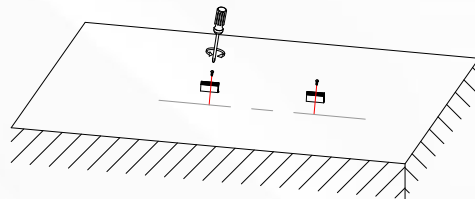

Figure 1
1. Fix the clip in the place where the neon flex installed, as shown in Figure 1.